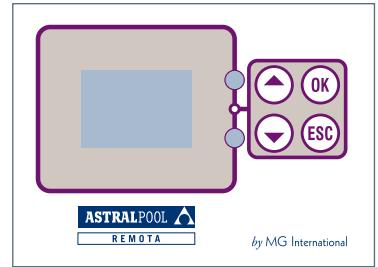

fig.5 - Remota™ navigation keyboard
- press the Remota™ "OK" button (fig.5) to access the adjustment menu
- using the arrows on the Remota™ keyboard (fig.5), position the cursor on "Adjust pH 7" and confirm by pressing "OK"
- press the Remota™ "OK" button (fig.5), to access the adjustment menu
- using the arrows on the Remota™ keyboard (fig.5), position the cursor on "Réglage T°" ("T° adjustment") and press "OK"
- using the "up" ▲ and "down" ▼ arrows (fig.5), adjust the temperature displayed on the screen so that it matches the one given by the calibration thermometer